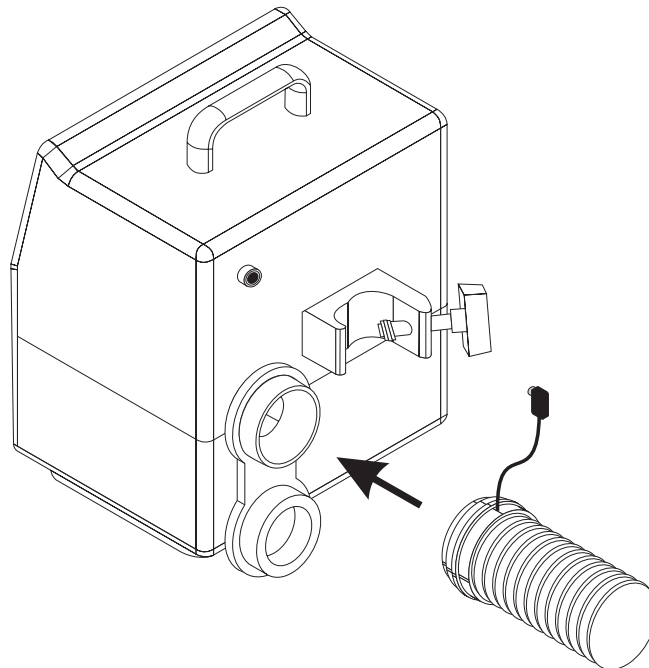

Figure 2 Attaching Hose
2. Attach the warming hose to the back of the warming unit as shown in Figure 2.